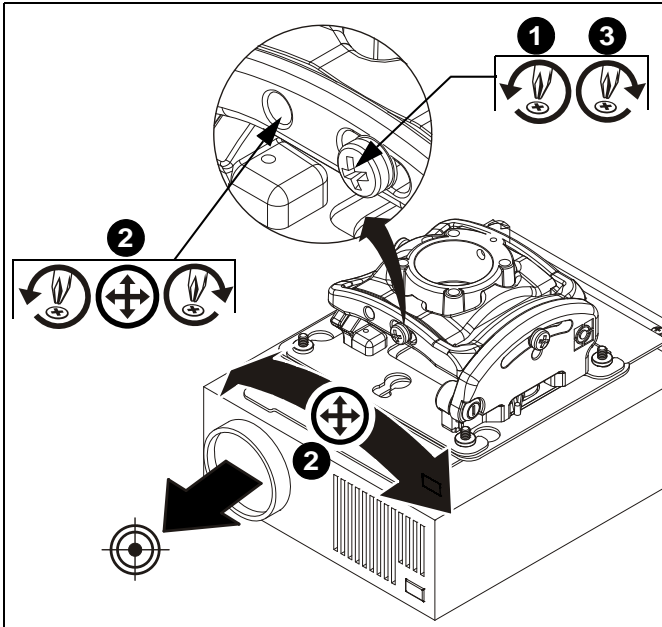

**Figure 10**
1. Loosen PITCH adjustment locking screw using a #2 Phillips screwdriver. (See Figure 10)